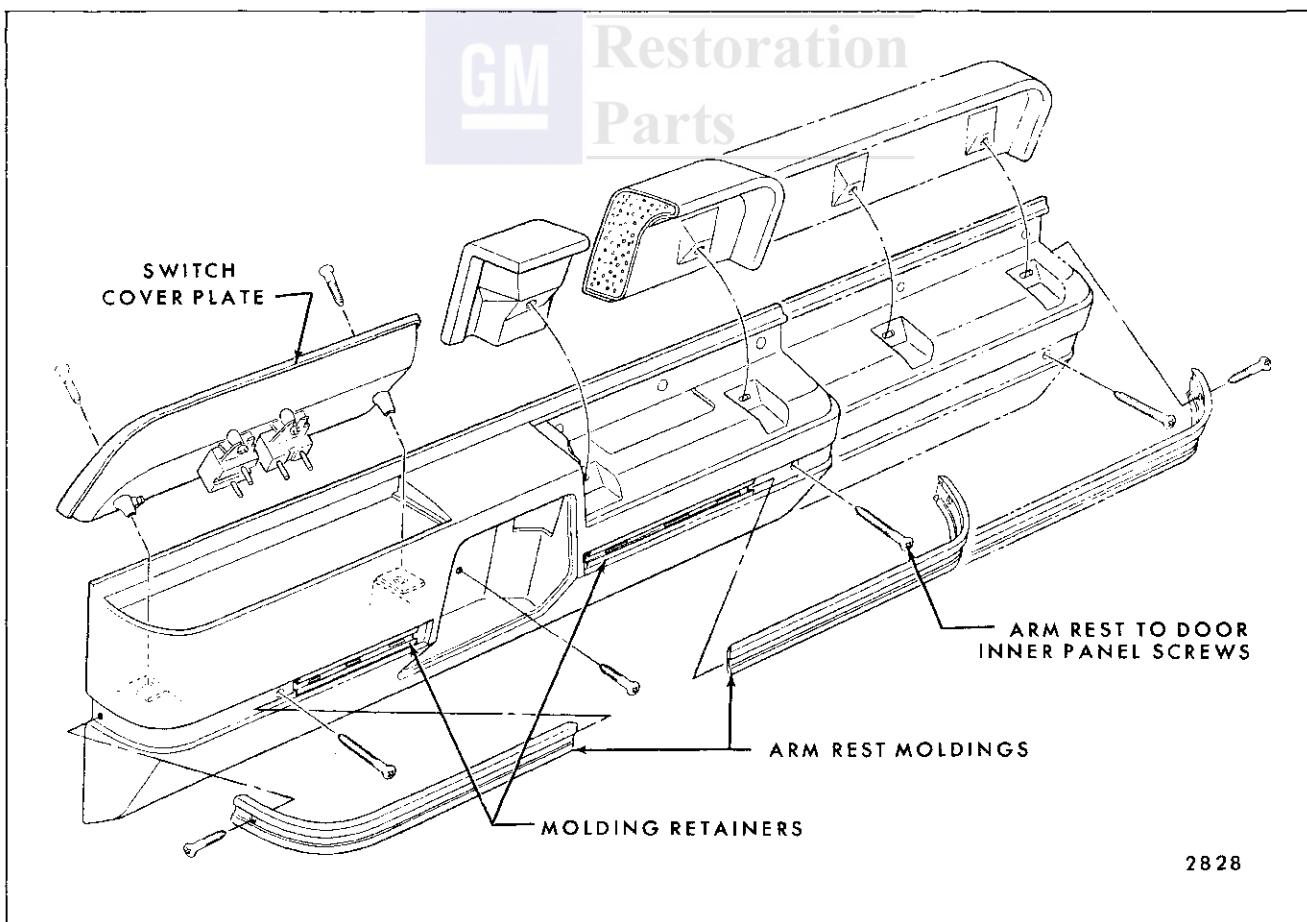

Fig. 14-10—Door Trim Pad Removal — Oldsmobile - Buick "C" Styles
4. On styles with switch cover plate in door arm rest (Fig. 14-10), remove screws securing cover plate and disconnect switches and vacuum door lock actuator, if present, from wire harness connectors and vacuum hoses.
6. On Oldsmobile 38000 and Buick 48000 series, remove arm rest moldings to expose arm rest to door inner panel attaching screws located under moldings (Fig. 14-10).